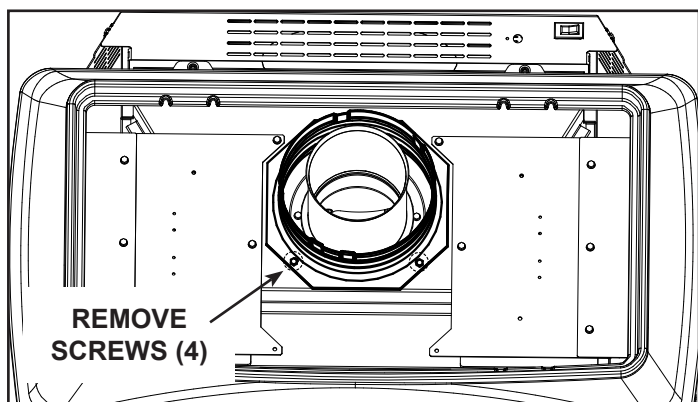
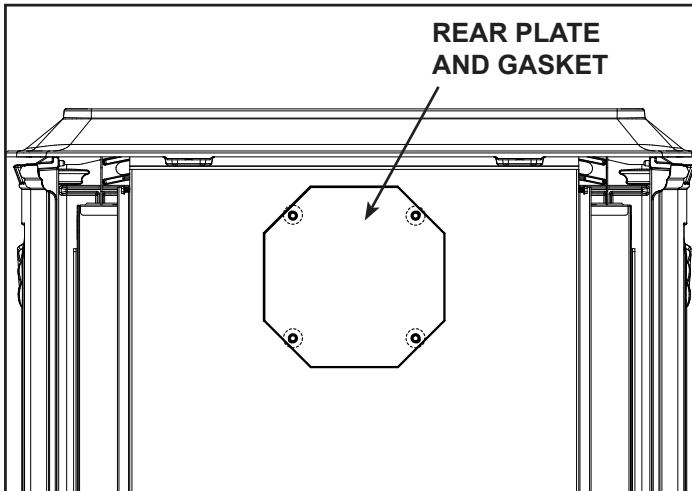
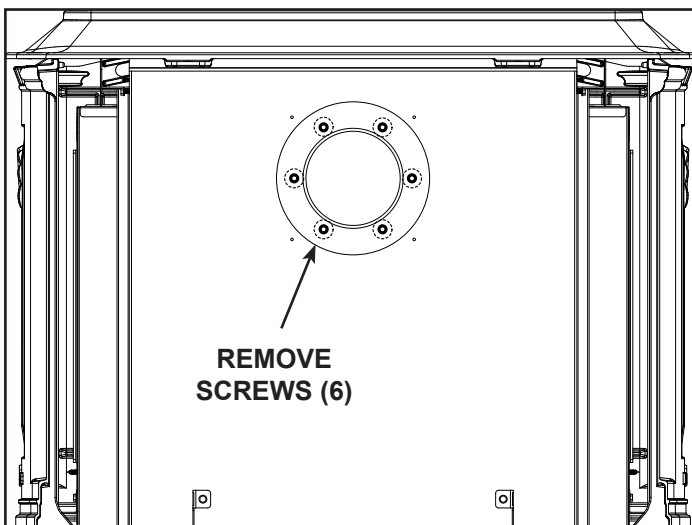
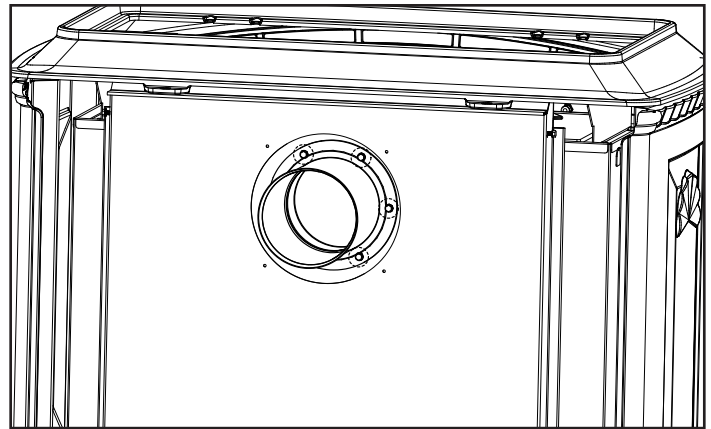

Figure 6.2
Figure 6.5
Figure 6.7 - Remove Screws Under Rear Access Plate
Figure 6.8 - Attach inner collar adapter to rear flue vent.
2. Remove starting collar and gasket by removing 4 screws. See Figure 6.2. Save the screws. (If gasket breaks, apply high-temp sealant to bottom of collar before installing as shown in Figure 6.8.)
- Place rear access plate and gasket over top vent and attach with the four screws removed in Figure 6.2.
- Remove six screws under the rear access plate removed in Figure 6.5. See Figure 6.7. Install inner pipe adapter and new gasket (included with kit) using six screws. See Figure 6.8.
- Install starting collar with gasket or high-temp sealant to rear vent opening. Attach with screws removed in Figure 6.5.